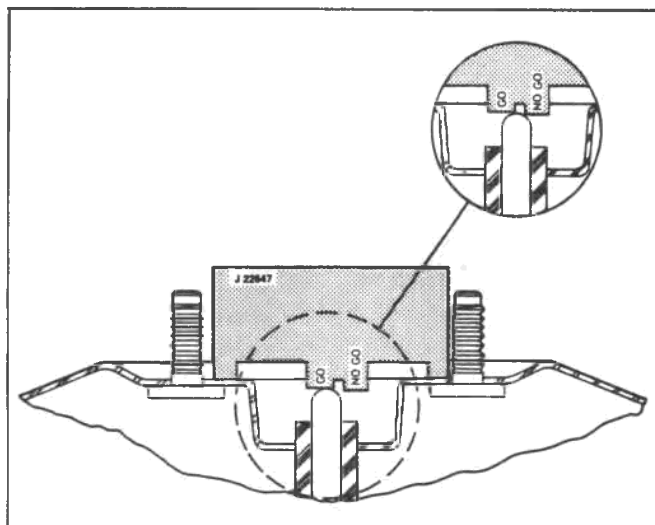

Fig. 5-5D-Gauging Piston Rod
5. Place Gage J-22647 over the piston rod in a position which will allow the gage to be slipped to the left or right without contacting the studs (fig. 5-5D).